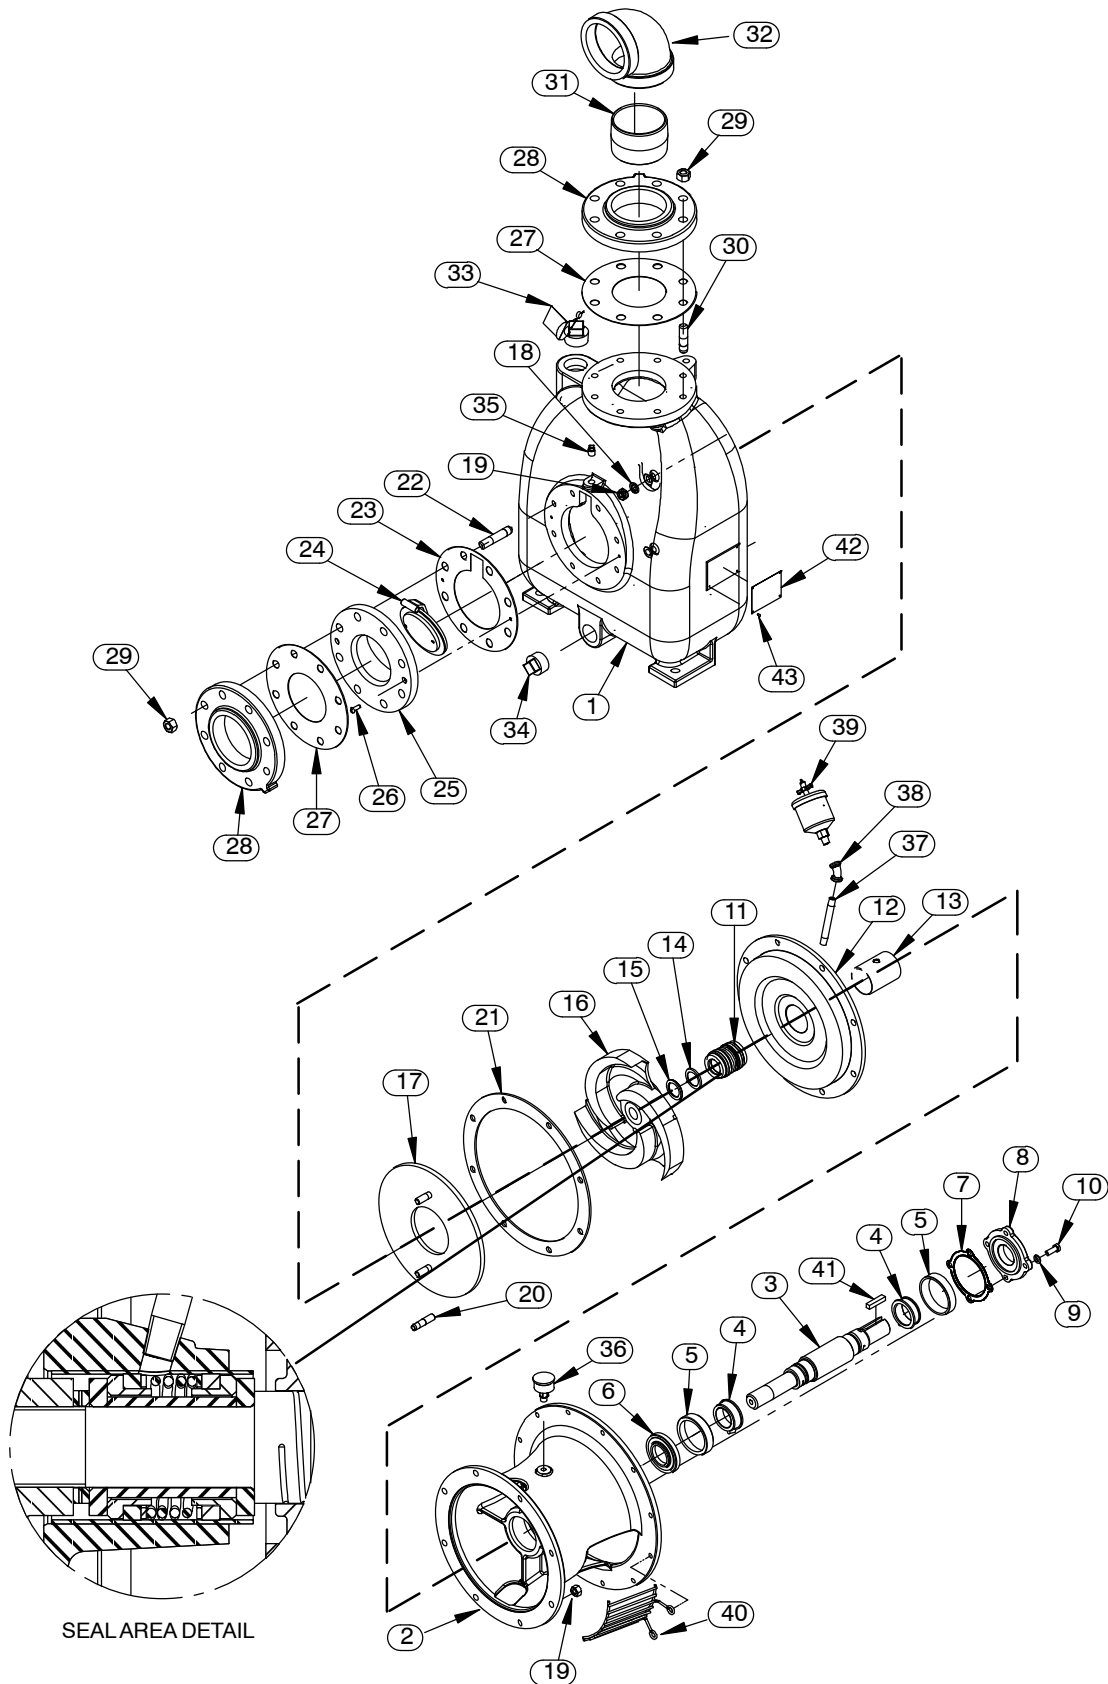

Figure 2. 84A2-(SAE 4/10) Pump End Assembly
(Figure 2)
As the assemblies separate, the flexible portion of the coupling assembly (not shown) will remain on the shaft. To remove the coupling from the shaft, unscrew the two allen head setscrews from the bushing (not shown). Screw one of the setscrews into the puller hole on the circumference of the bushing. As the coupling and bushing separate, remove the bushing, and slide the coupling off the shaft. Remove the shaft key (41, Figure 2).